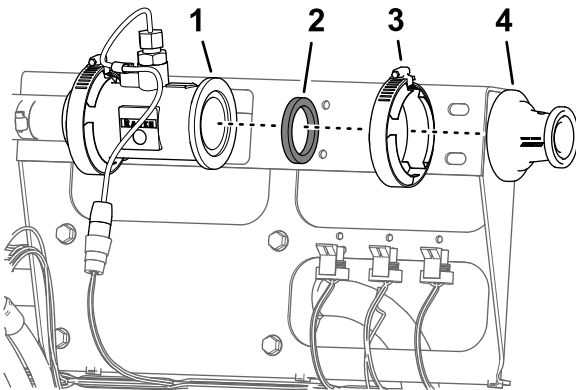

Figure 69
6. Remove the flange clamp 51 mm (2 inches) and gasket 38 mm (1-1/2 inches) that secure the flange of the adapter to the flange of the flow meter (Figure 69).